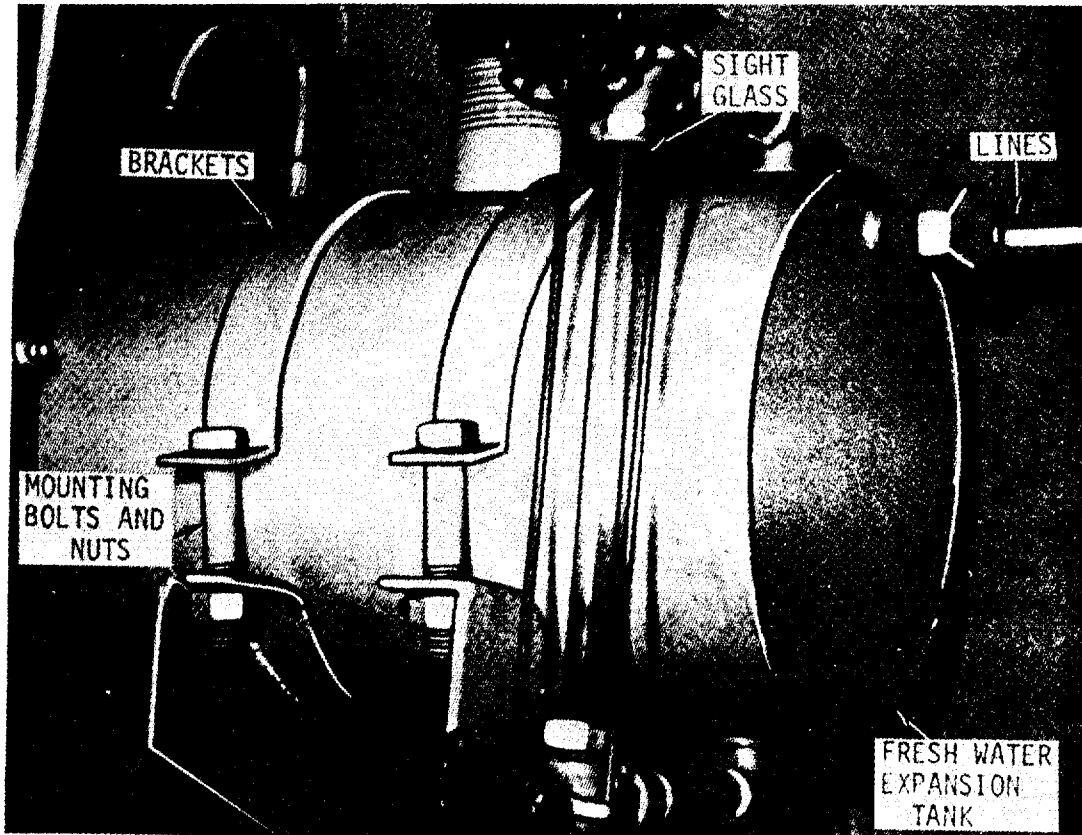

Figure 3-27. Fresh water expansion tank, removal and installation.
(1) Loosen clamps and disconnect lines from! expansion tank (Refer to fig 3-27).
(2) Disconnect tubing and remove expansion tank.
c. Installation. Install tank and connect tubing. (fig. 3-27).